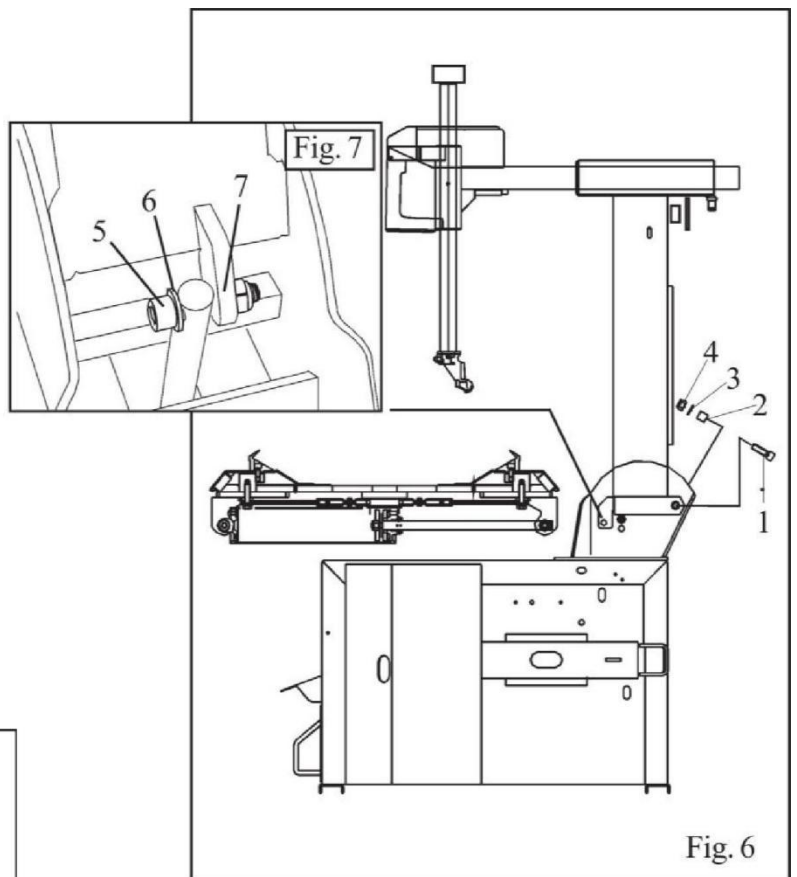

Fig. 6
- Set the rear articulation pin (1) and the washers (2) and tighten the screws (4). Fig. 6.